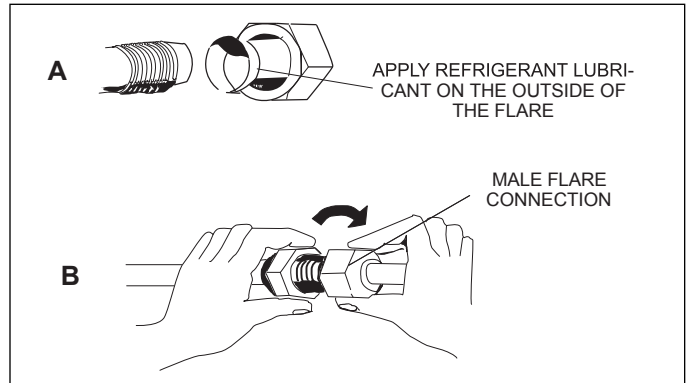

Figure 31. Making Connections (Male to Female Connection)
- Align the threaded connections with the flared refrigerant lines. Tighten the flare nuts lightly at first to obtain a smooth match as illustrated in "Figure 31. Making Connections (Male to Female Connection)".